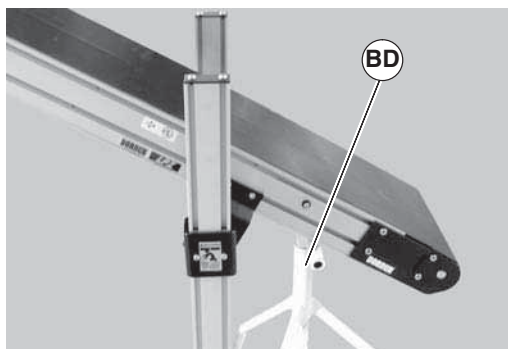

Figure 40
1. Place temporary support (Figure 40, item BD) under conveyor sections.